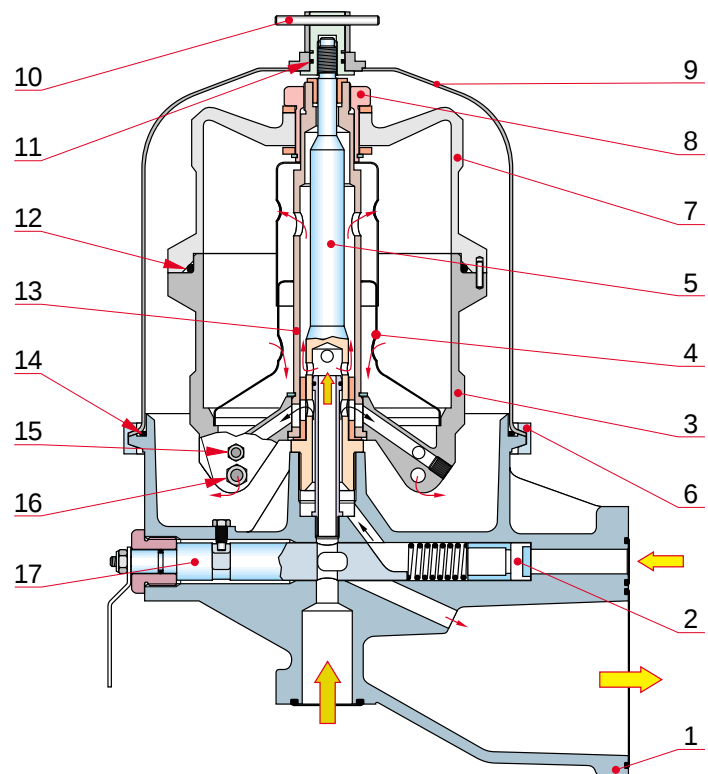

Fig 18-7
- 1 Shut off the filter** by closing the valve (17), see Fig 18-7.